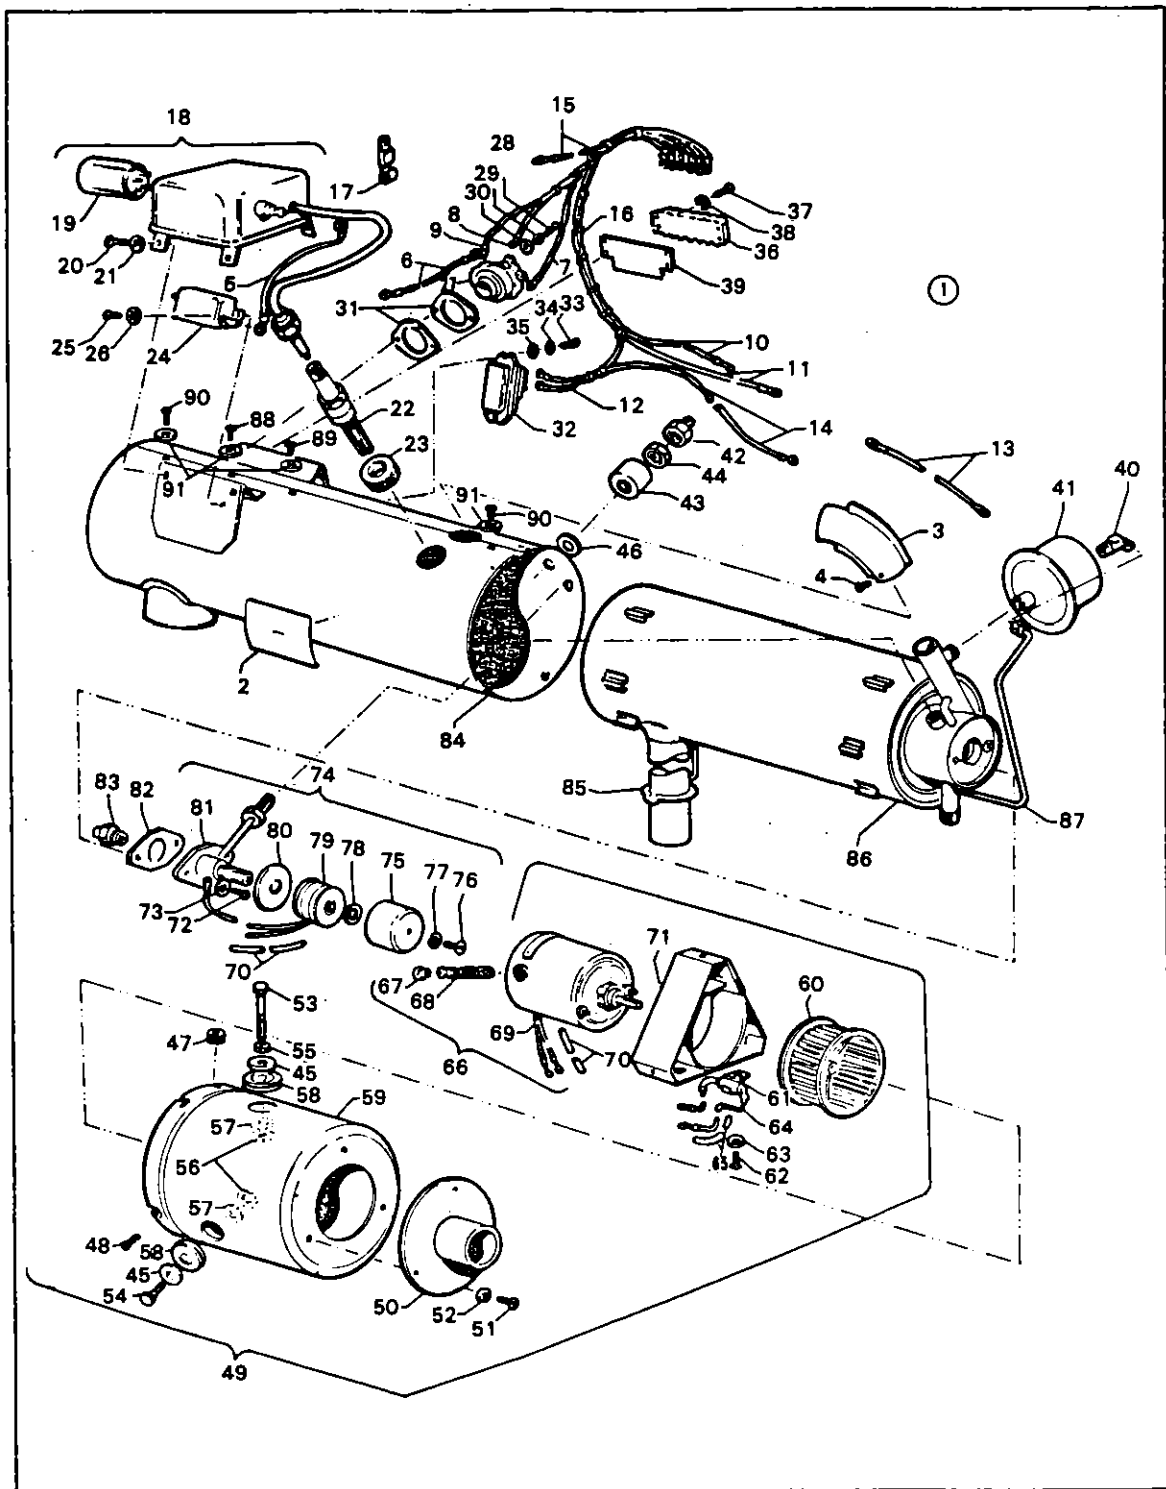

Figure 13-25. Exploded View of Heater Assembly No. 751 959
13-110. CLEANING. (Refer to Figure 13-25.)
(Refer to Figure 13-25.)
13-112. INSPECTION OF REMAINING COMPONENTS. (Refer to Figure 13-25.)
f. Inspect the ignition assembly (18, Figure 13-25) for dented case, loose or damaged primary terminal insulator and broken or obviously damaged high-voltage lead. Give particular attention to the condition of the spring connector at the end of the lead. If the spring is burned off, visibly eroded, or carbon tracked, the ignition assembly should be replaced.
- e. Spray test the nozzle (see (83), Figure 13-25) as follows:
13-115. REASSEMBLY. (Refer to Figure 13-25.)
← Legend for Figure 13-25.